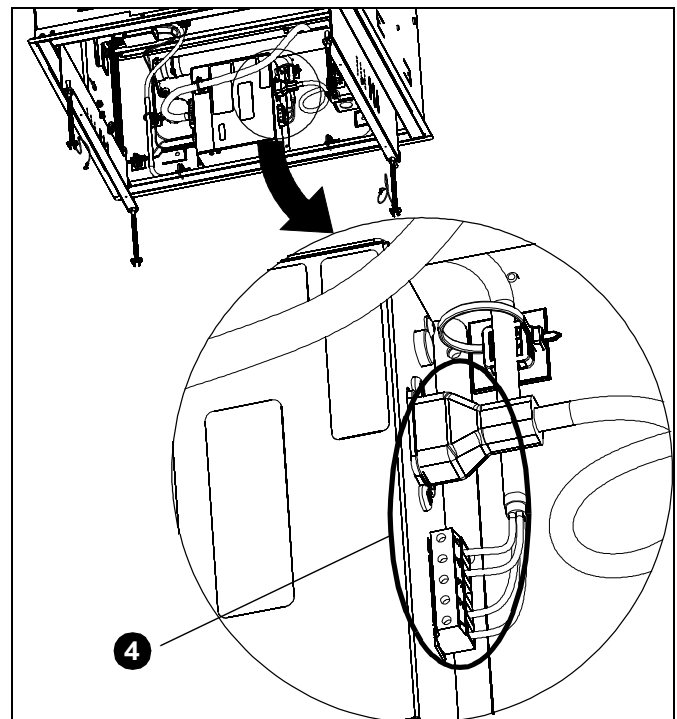

Figure 6
4. Reconnect power inlet and motor connector plugs. (See Figure 6)